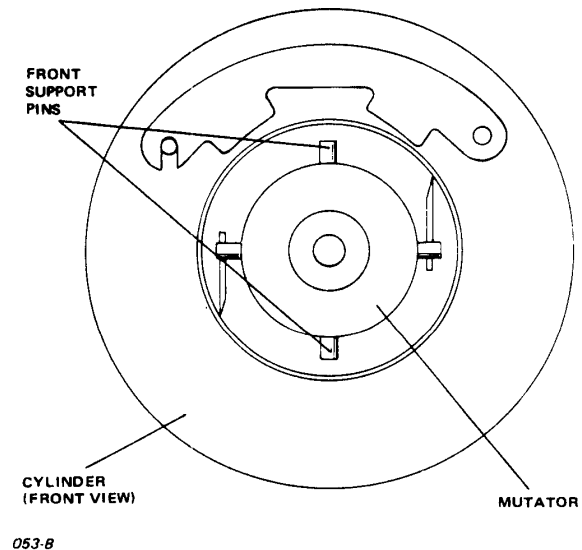

Figure 5-2. Front View of Thermutator with Front Product Inlet/Outlet Assembly Removal
2. Turn the front of the mutator so that front support pins are vertical (see figure 5-2).
5. Rotate the mutator so that the front support points are vertical (see figure 5-2).